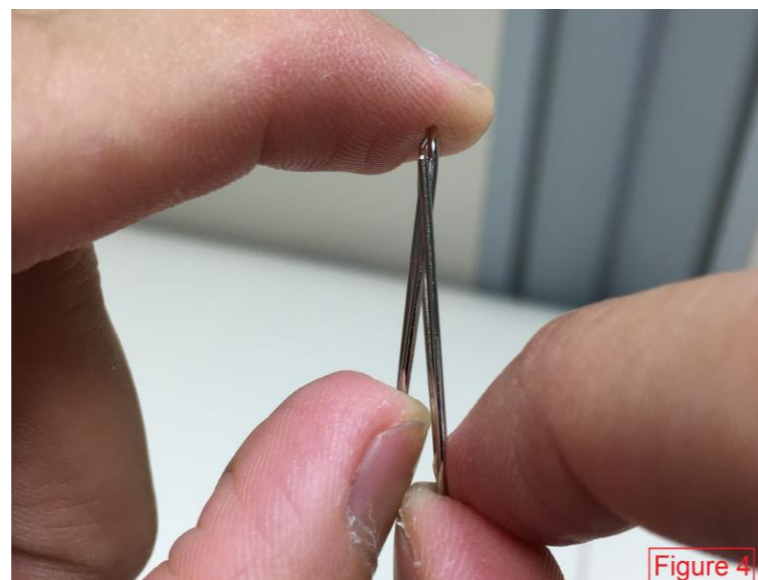

Figure 4
- 4) Hold the tips of the clip at A and B with your index and thumb fingers as shown in Figure 4 below. Start closing the clip in the same incremental manner as described in step 2 until A and B are aligned and touching.